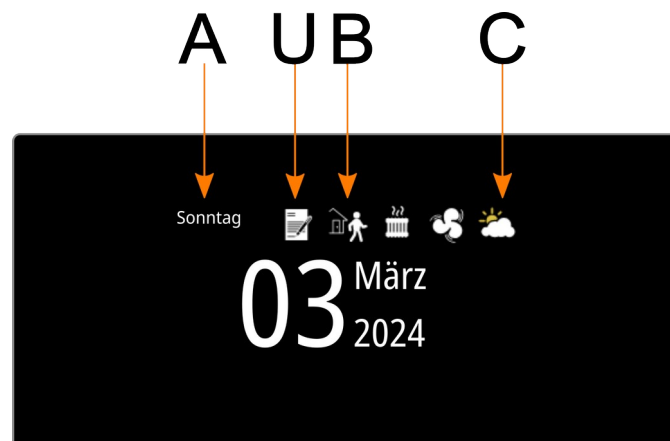

Figure 22: Premium display icons and info text
As show in figure 22, the operating mode of the controller is shown in the middle (B). Next to it is the output of the control variable or the 2-point controller, followed by the output of the fan control. (C) visualizes the weather info. The text (A) is partly context-related and is generated automatically depending on the language setting. The icon (U) can be set by the user via CO 10. The assignment of the CO values to the icon can be found on the following pages 43.